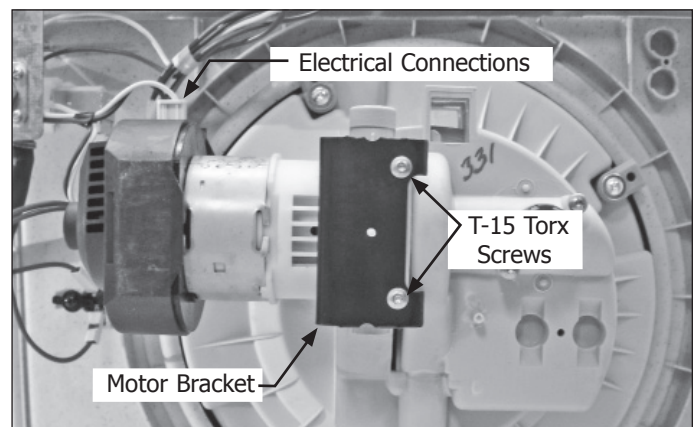

Figure 4-31.
7. Using a Torx T-15 bit, extract the two screws securing the wash motor bracket to the bottom of the sump. Pull bracket out of the slots in the bottom of the sump. (See Figure 4-31)